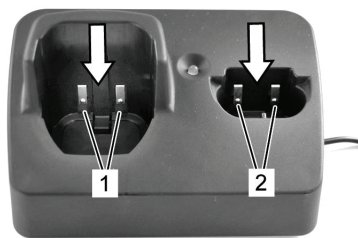

Fig. 22
To receive good clipping results and to increase the durability of the clipper and the clipperhead, it is necessary to apply a thin oil coat between top and bottom blade (fig. 22).
- ▶ Lubricate the blades sufficiently during the clipping (at least every 15 minutes), so that they do not drain (fig. 22).